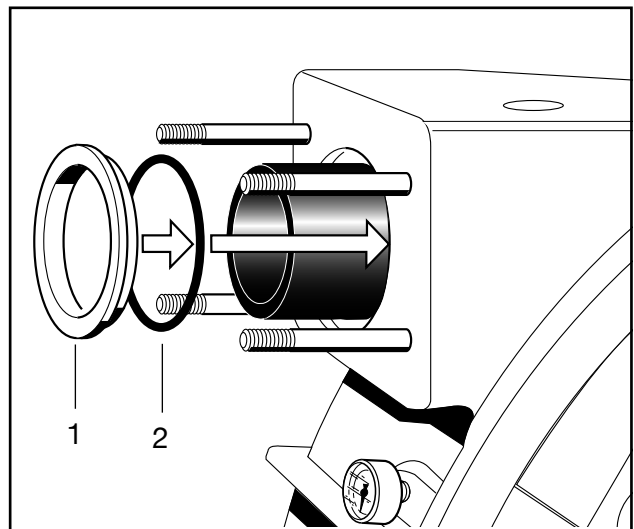

Fig. 22 Assembling the retaining ring
5. First, completely assemble the connecting socket on the discharge side. Start by assembling the new O-ring (item 2, Fig. 22) followed by the stepped ring (item 1, Fig. 22).